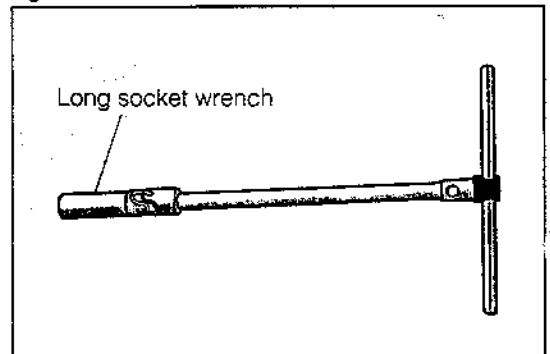

Fig. 8-38
- (1) Remove the four attaching nuts of the brake booster, using a long socket wrench (having a width across flat of 12 mm), as indicated in Fig. 8-38.
- (2) Remove the brake booster assembly and gasket from the vehicle.